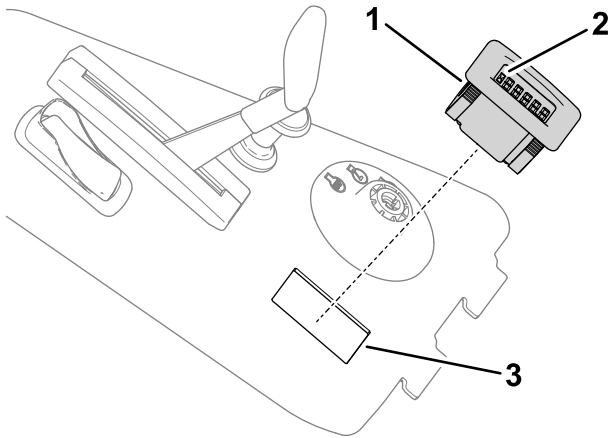

Figure 3
3. Install the hour meter into the cutout, ensuring that the hourglass symbol is facing towards the throttle (Figure 3).